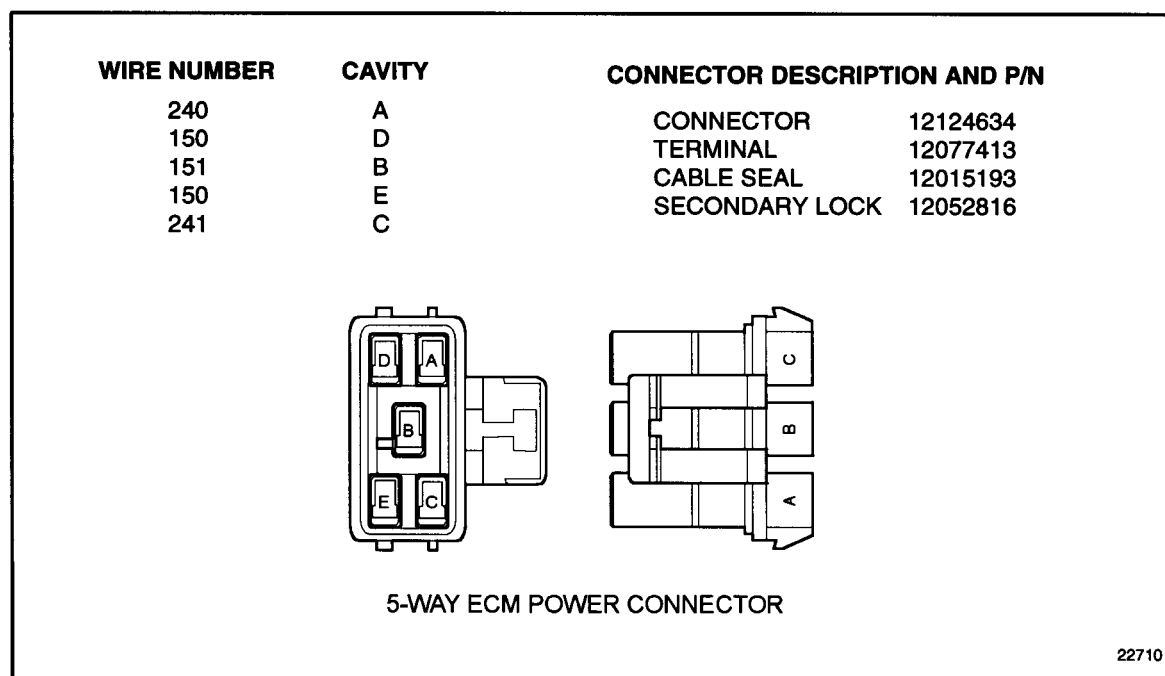
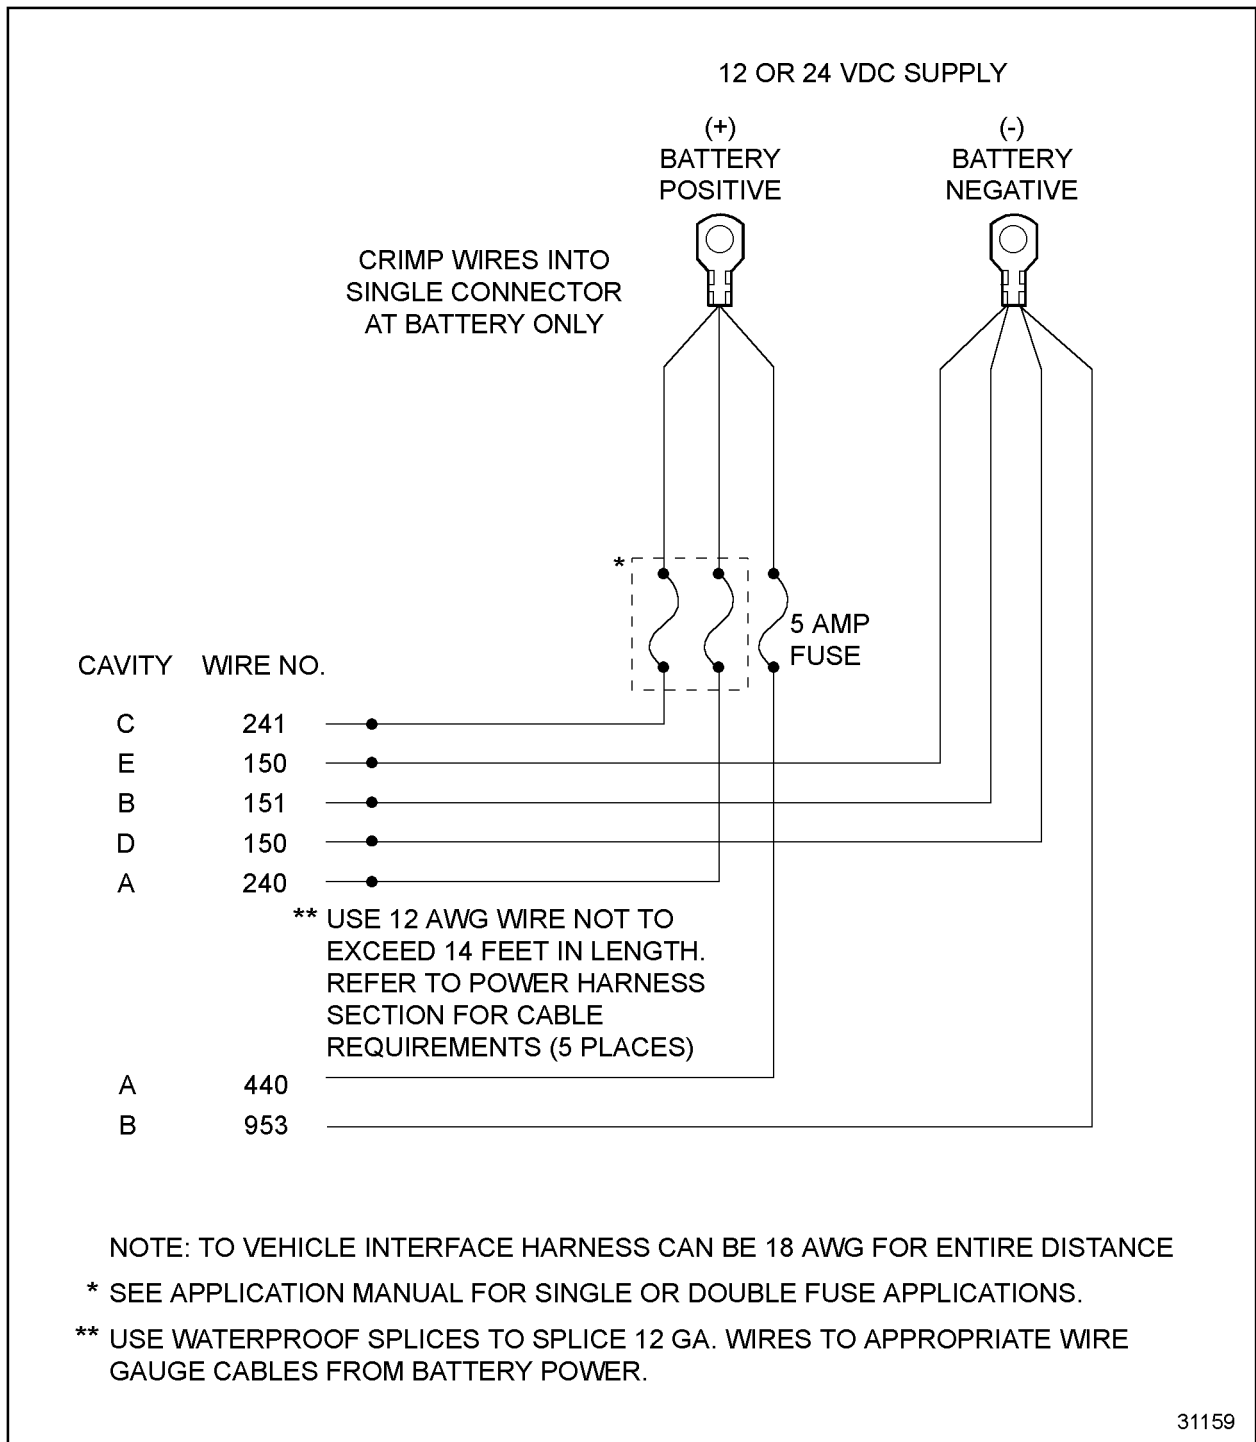
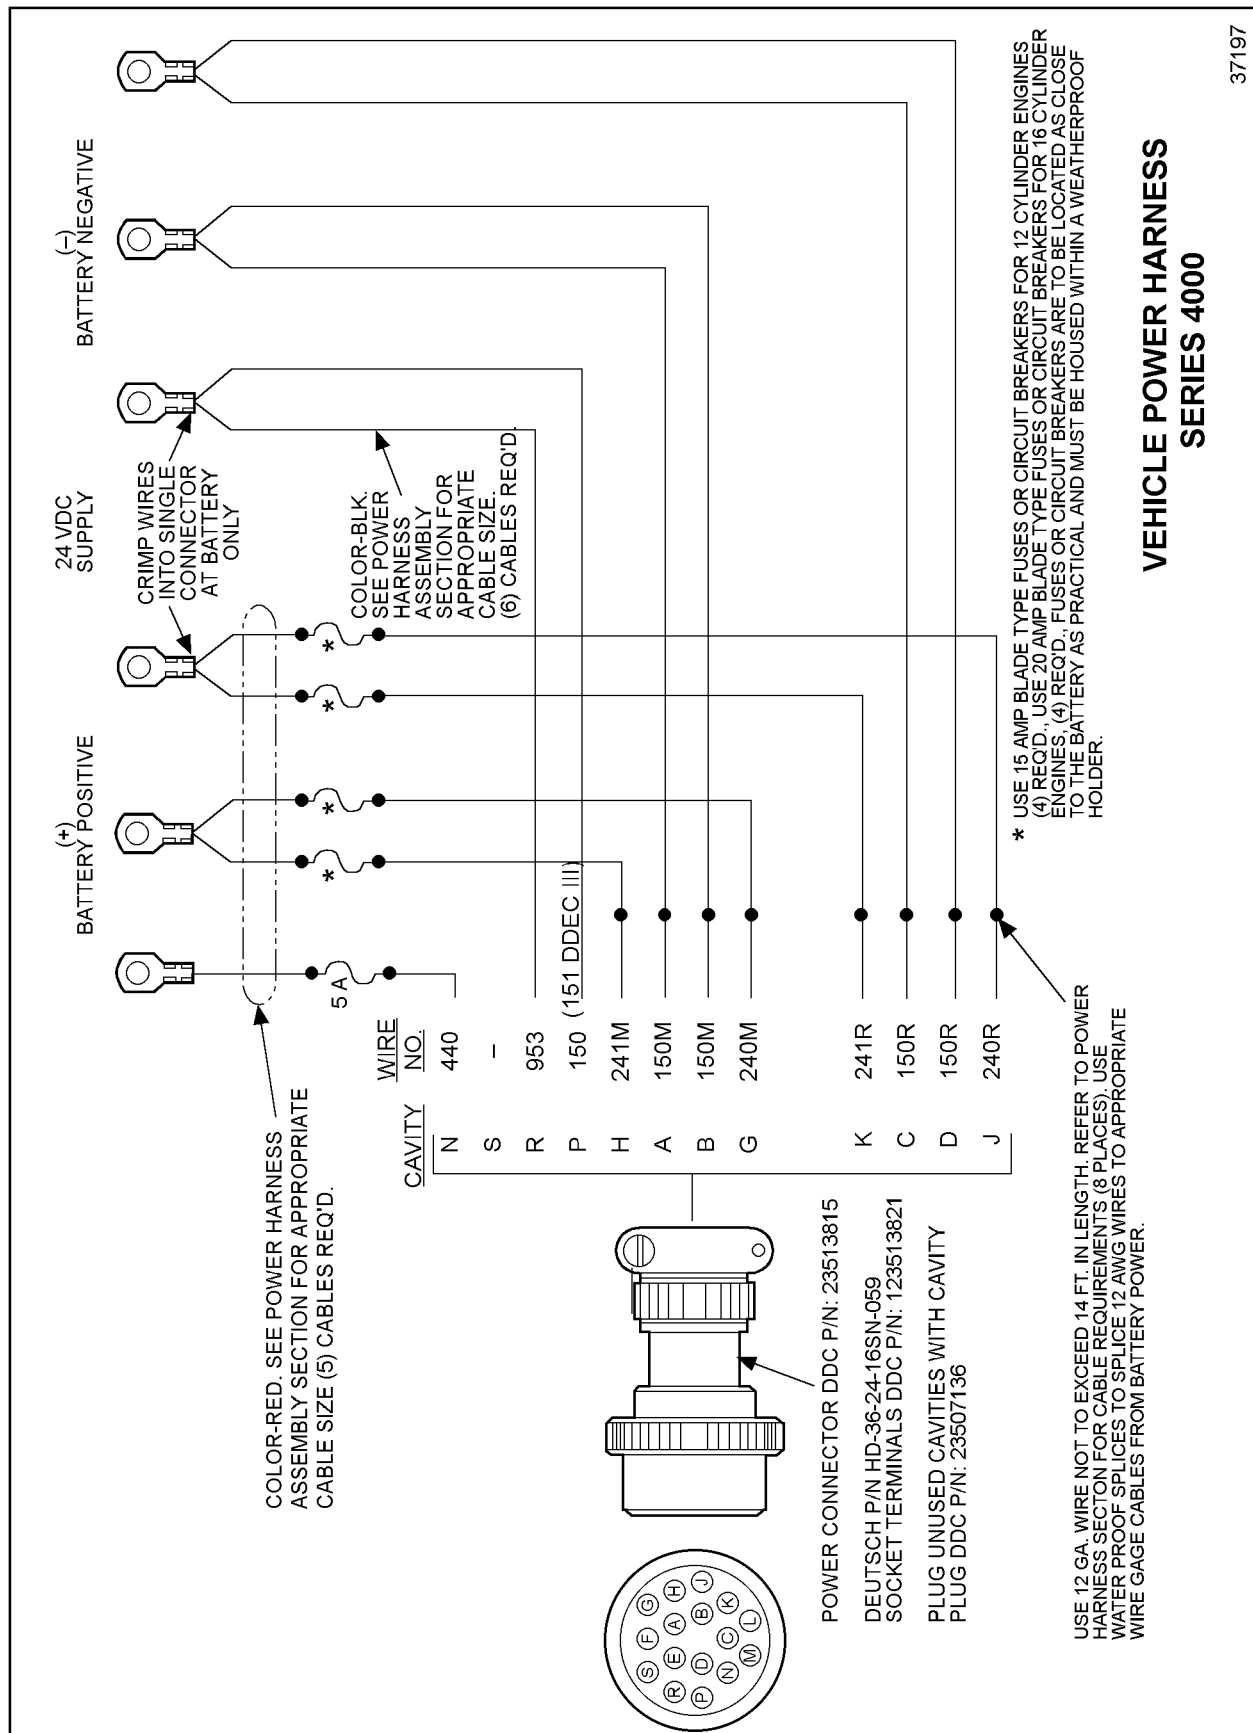
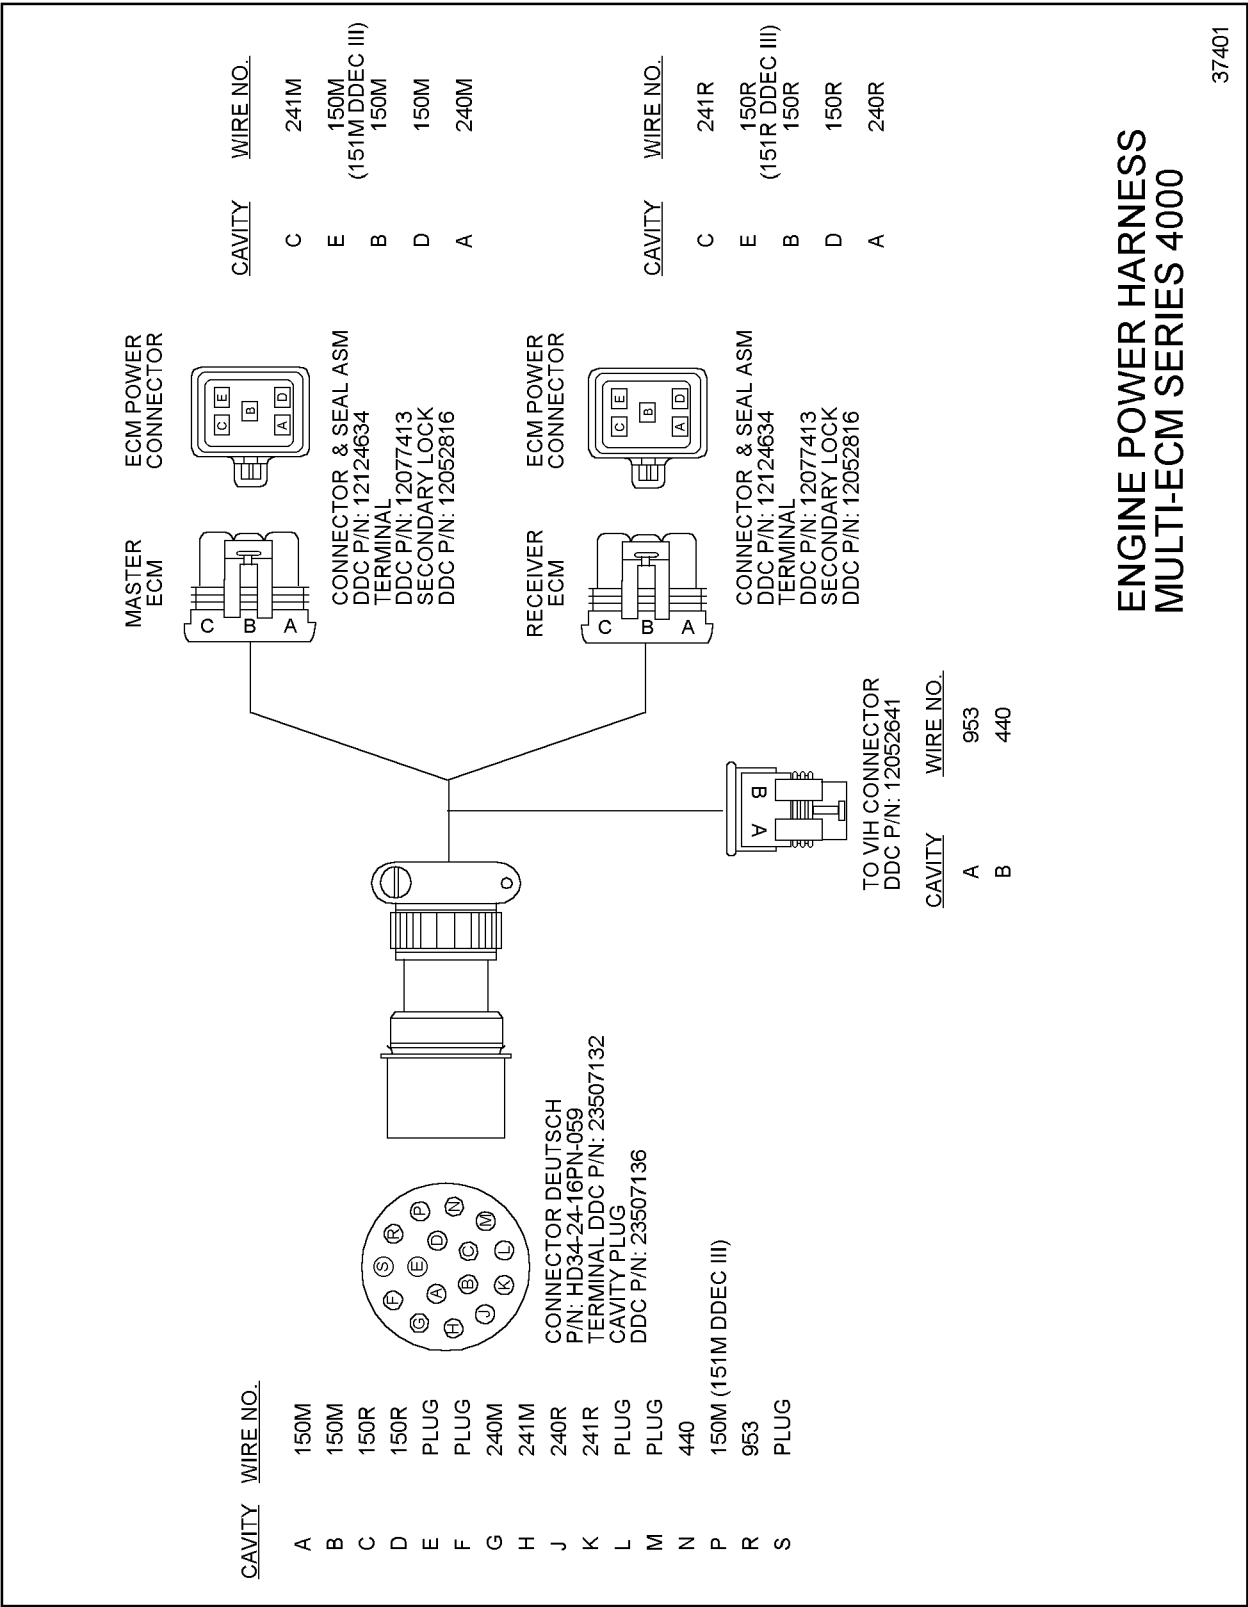

Figure 46-1 5-Way ECM Power Connector
Figure 46-2 Power Harness
Figure 46-3 Series 4000 Vehicle Power Harness
Figure 46-4 Series 4000 Engine Power Harness
3. Measure voltage from socket A and C (red lead) of 5-way power harness connector and a good battery ground (black lead). Don't use line (#151) as a ground reference. For 5-way ECM power harness connector, see Figure 46-1. For power harness schematic, see Figure 46-2. For Series 4000 power harness schematic, see Figure 46-3. See Figure 46-4, for the Series 4000 engine power harness.